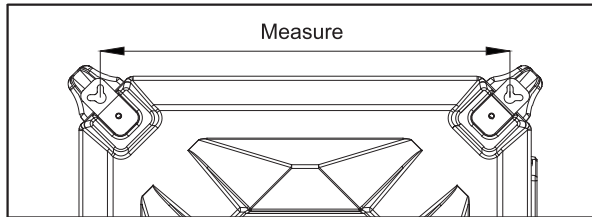

Fig. 4
2. Measure the distance between the brackets (as shown in Fig. 4), and use this as a guide to make a mark on the wall before installation.